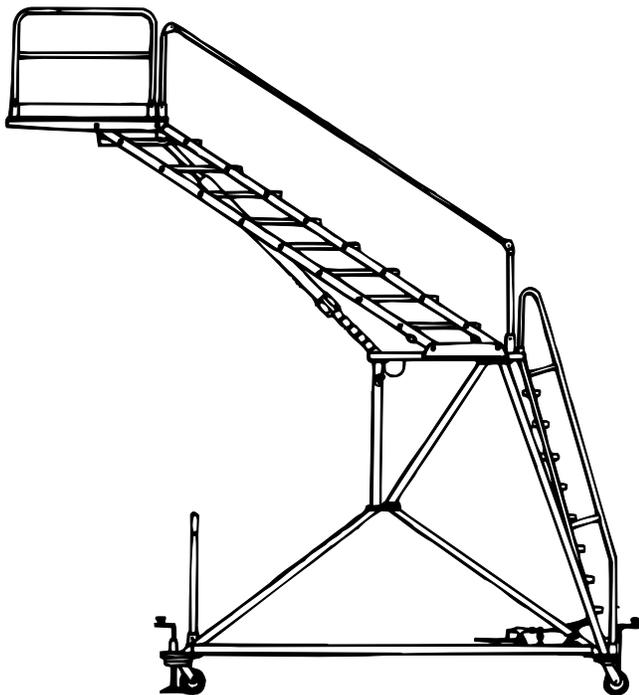

Figure 1-29.—B-2 maintenance platform.
**B-2 MAINTENANCE PLATFORM.**—The B-2 maintenance platform (fig. 1-29) consists of a fixed height, 10-foot lower structure, a variable height upper structure, and a manual pump actuated hydraulic system for raising and lowering the upper structure. The platform has guardrails and the steps have handrails. It has free swivel caster assemblies, with each having a foot lever-actuated mechanical brake and lock mechanism. The lower structure also includes four jack pads that act as brakes. The height range is from 13 to 20 feet. Overall height of the B-2 is 16-1/2 feet lowered and 23-1/2 feet raised, and it has a weight bearing capacity of 600 pounds. The work platform is 4 feet by 4 feet square.